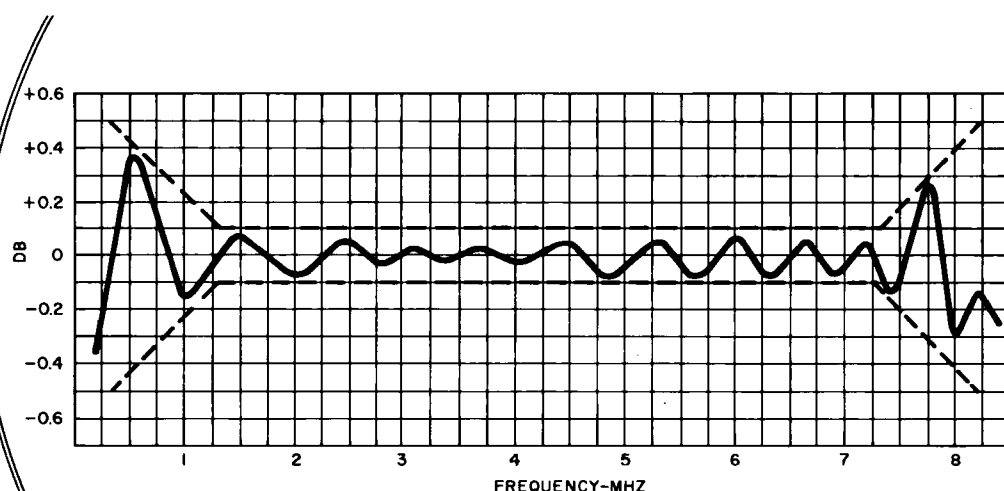

Fig. 3—Expected Result—Sectional Gain Equalization
- 28 Repeat Steps 26 and 27 until no further improvement in the flatness of the trace or the minimum meter reading can be obtained. Figure 3 shows the expected oscilloscope signal presentation of a properly equalized line. Signal deviations should not exceed the values indicated by the dashed lines.